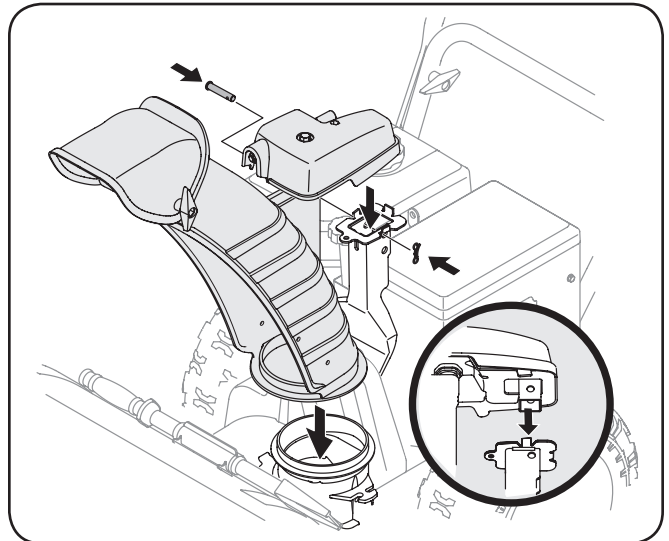

Figure 3-13
2. Place chute assembly onto chute base and secure chute control assembly to chute support bracket with clevis pin and cotter pin removed earlier. See Figure 3-13.